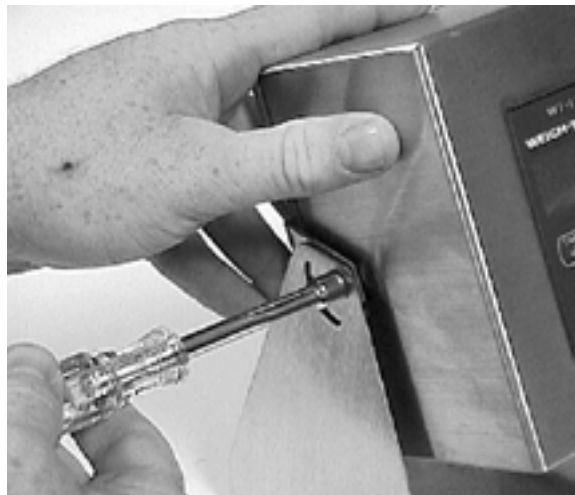

Figure 9
2. Remove the screws holding the base to the indicator case. See Figure 9.